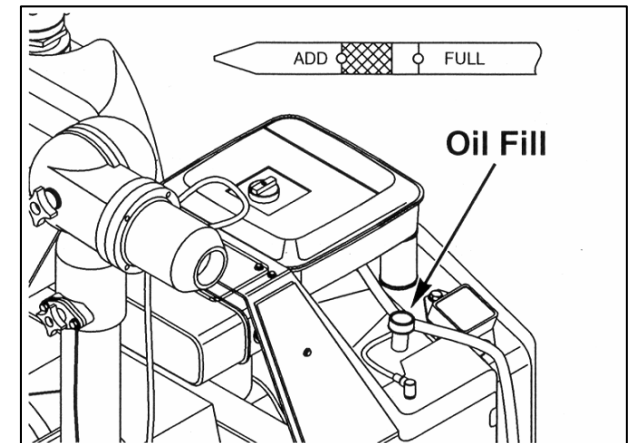

Fig. 55. Engine oil level check & fill.
- 7. Check the oil level in the engine using the dipstick located on the left side of the engine below the air filter. Add SAE 30 weight detergent oil (Fig. 55).